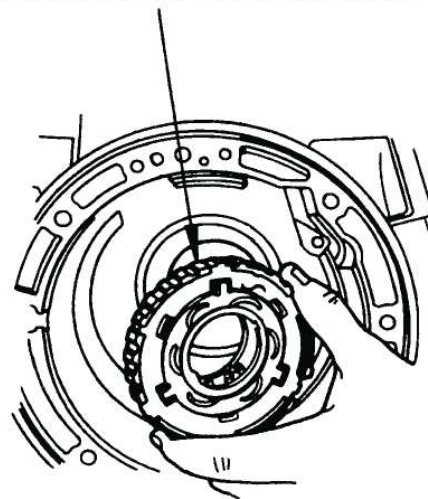

Figure 46
- (2) **REVERSE DRUM** - The 1st design Reverse Drum contains the **low roller clutch** and has the "Castles" on the front of the drum to accept the 10 lug, 4 pinion steel rear carrier, as shown in Figure 46. The 2nd design Reverse Drum contains the **low sprag clutch** and is machined to accept the multiple lug, 6 pinion steel rear carrier for the 4.0L models, as shown in Figure 46.